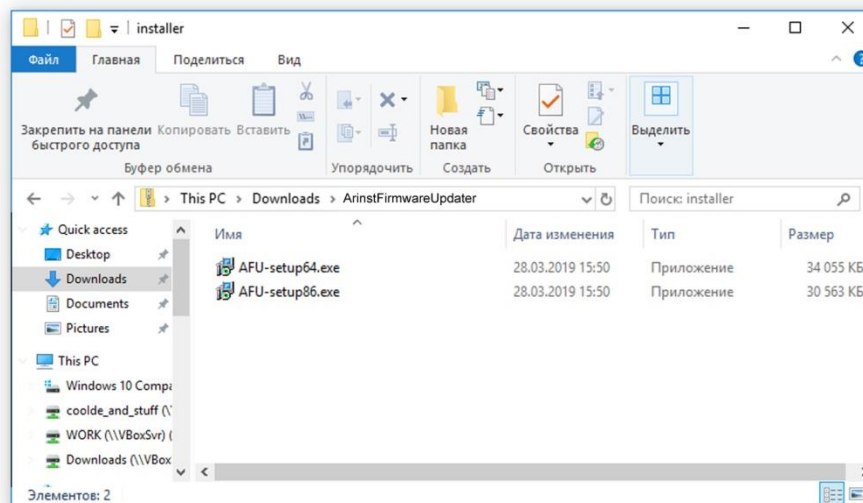

Figure A1.3 – The unzipped downloaded file
In our example in Figure A1.3, the archive file *ArinstFirmwareUpdater* is saved to the **Downloads** folder.
1.3. Enter the directory into which the archive file was uploaded and unzip it with the help of archiver (Figure A1.3).